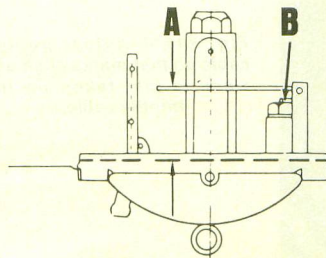

Fig. Y11-2—Float level (A) should be measured from gasket surface with gasket removed. Adjust level by bending tang (B).
**CARBURETOR.** Model DS7 is equipped with two Mikuni VM26SC carburetors. Idle air screw setting is 1 turn open. All other models are equipped with two Mikuni VM28SC carburetors. Idle air screw setting is 1¼ turns open on models R5C and RD250A; 1½ turns open on model RD250; 1¾ turns open on models R5, R5B, RD350 RD350A. Float level for all models should be 15MM (A—Fig. Y11-2). Refer to following tables for carburetor specifications: